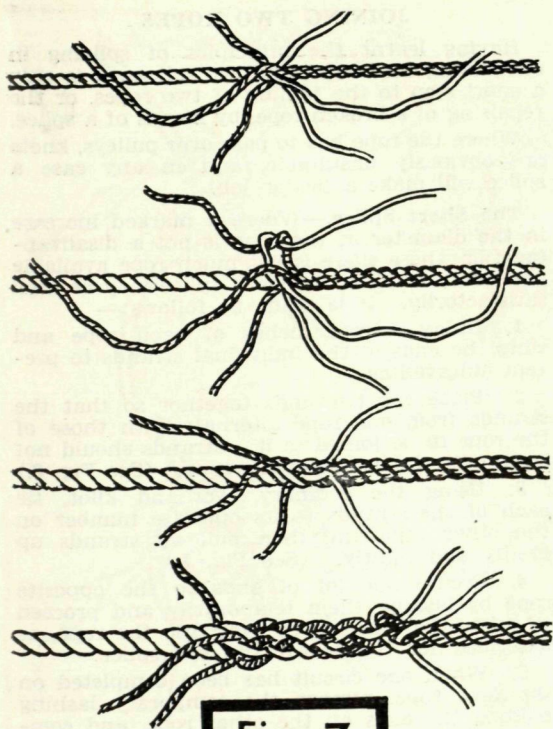

Fig. 7.
3. Using the ordinary overhand knot, tie each of the strands to its opposite number on the other rope and then pull all strands up evenly and tightly. (See Fig. 7.)